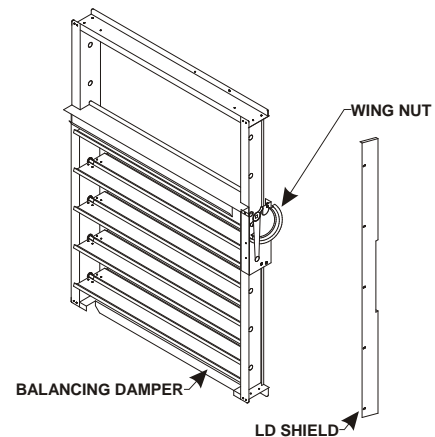

Figure 6
9. Open filter access door and slide in balancing damper on economizer rails. Put balancing damper in place with the damper blade at the bottom. Balancing damper mounts in place of the economizer shown in **Figure 3.** After assembly is in place attach the LD shield to the side panel, thus securing the balancing damper from sliding out of position. Loosen wing nut on adjustable quadrant, rotate arm to set blades to 50% open and retighten wing nut. **See Figure 6.**